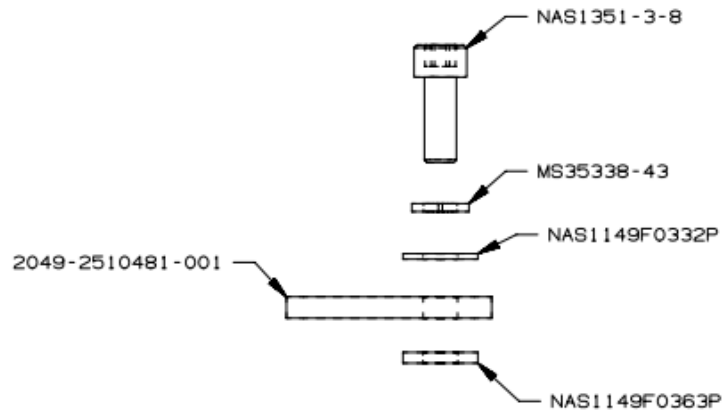

Figure 3.1 Stack-up Sequence
- C. Stack the blocking tab with screw and washers per Figure 3.1